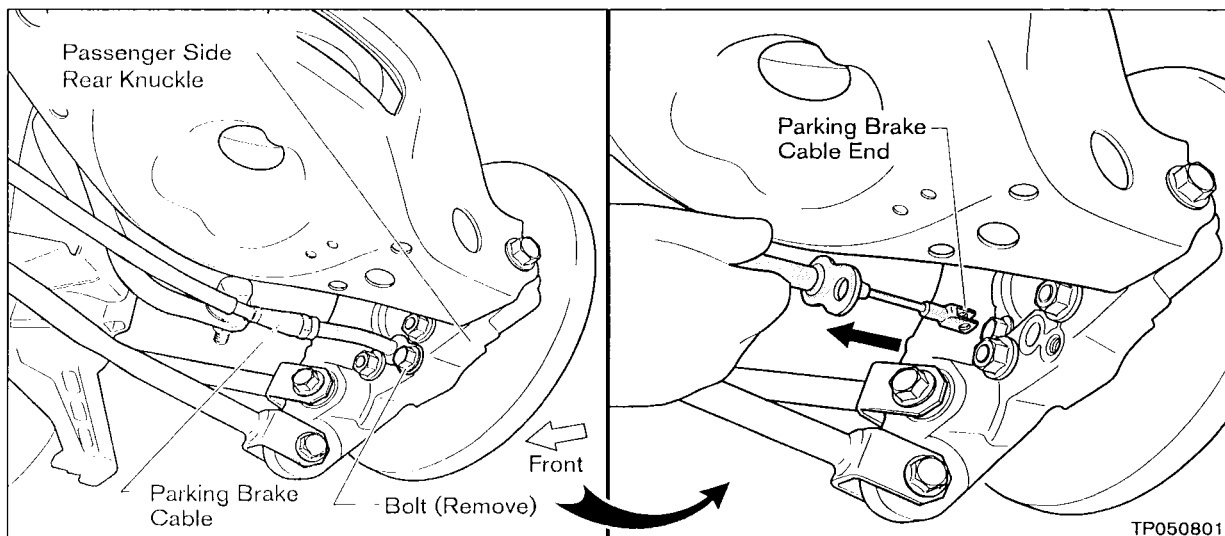

Figure A12
- c. Finally, remove the bolt and remove the parking brake cable from the back side of the knuckle (see Figure A12).
- d. Do the same procedure to remove the cable from the driver's (LH) side knuckle.